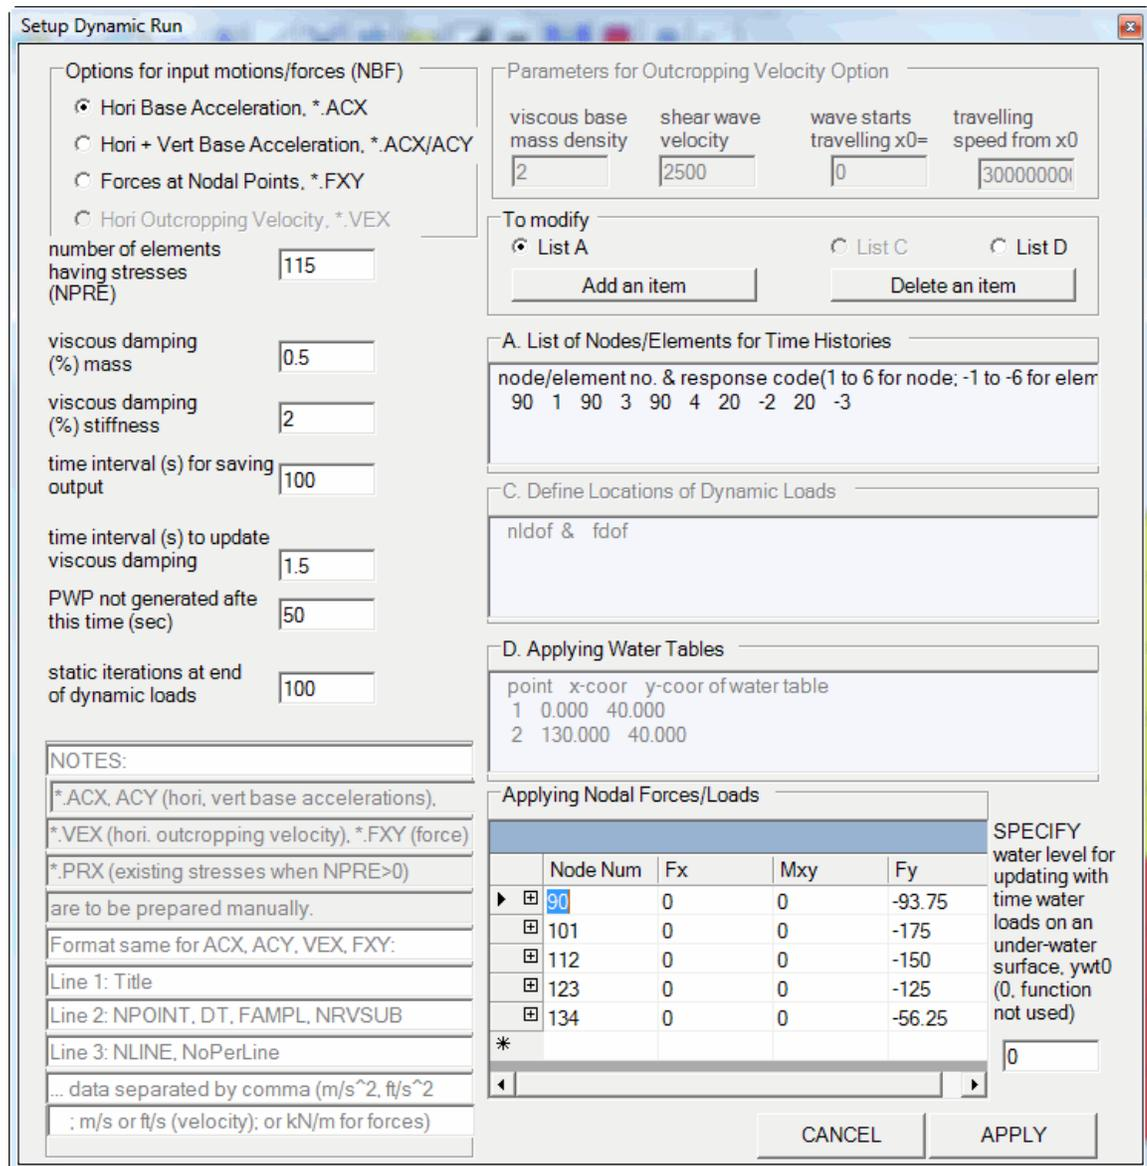
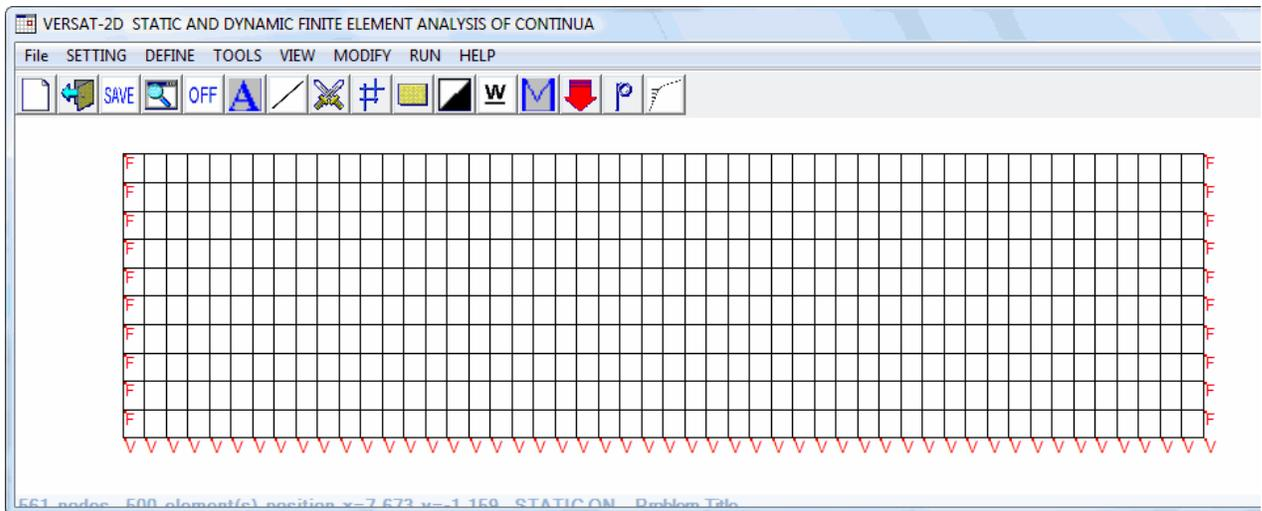

Figure 4.1 A setup window for a dynamic analysis
Figure 4.2 A finite element model assigned with free-field stress boundary on the sides and viscous boundary at the base
- The data format for “*run3.ACX*” is shown in the left and lower area of the setup window, as shown in Figure 4.1, where *NPOINT* is the total number of acceleration data to be used in the analysis, *DT* is the time interval of the accelerations, *FAMPL* is a linear scaling factor by which the data are multiplied; and
9. Review the water level parameter “*ywt0*” [default=0 for function not used]: An input box is located above the “*APPLY*” button in Figure 4.1. This function is invoked by entering a positive value (commonly the reservoir elevation) in the input box. Be very cautious in initiating this function. Its usage is recommended when submerged ground surface is expected to have large deformations under loading or ground shaking.
The free-field stress boundary is described in Section 3.12 of VERSAT-2D Technical Manual. This boundary condition should only be used in a dynamic analysis and only for side boundaries, and it is assigned by typing boundary code “-1” in the input box in Figure 4.2 (see Section 2.3).
The viscous boundary must be, and is only, applied when “*Hori Outcropping Velocity*” is chosen as the option for input ground motion in Figure 4.1. In order to use this option, the finite element model should have a horizontal base with a viscous boundary. The viscous boundary condition is assigned by typing boundary code “-2” in the input box in Figure 4.2 (see Section 2.3).